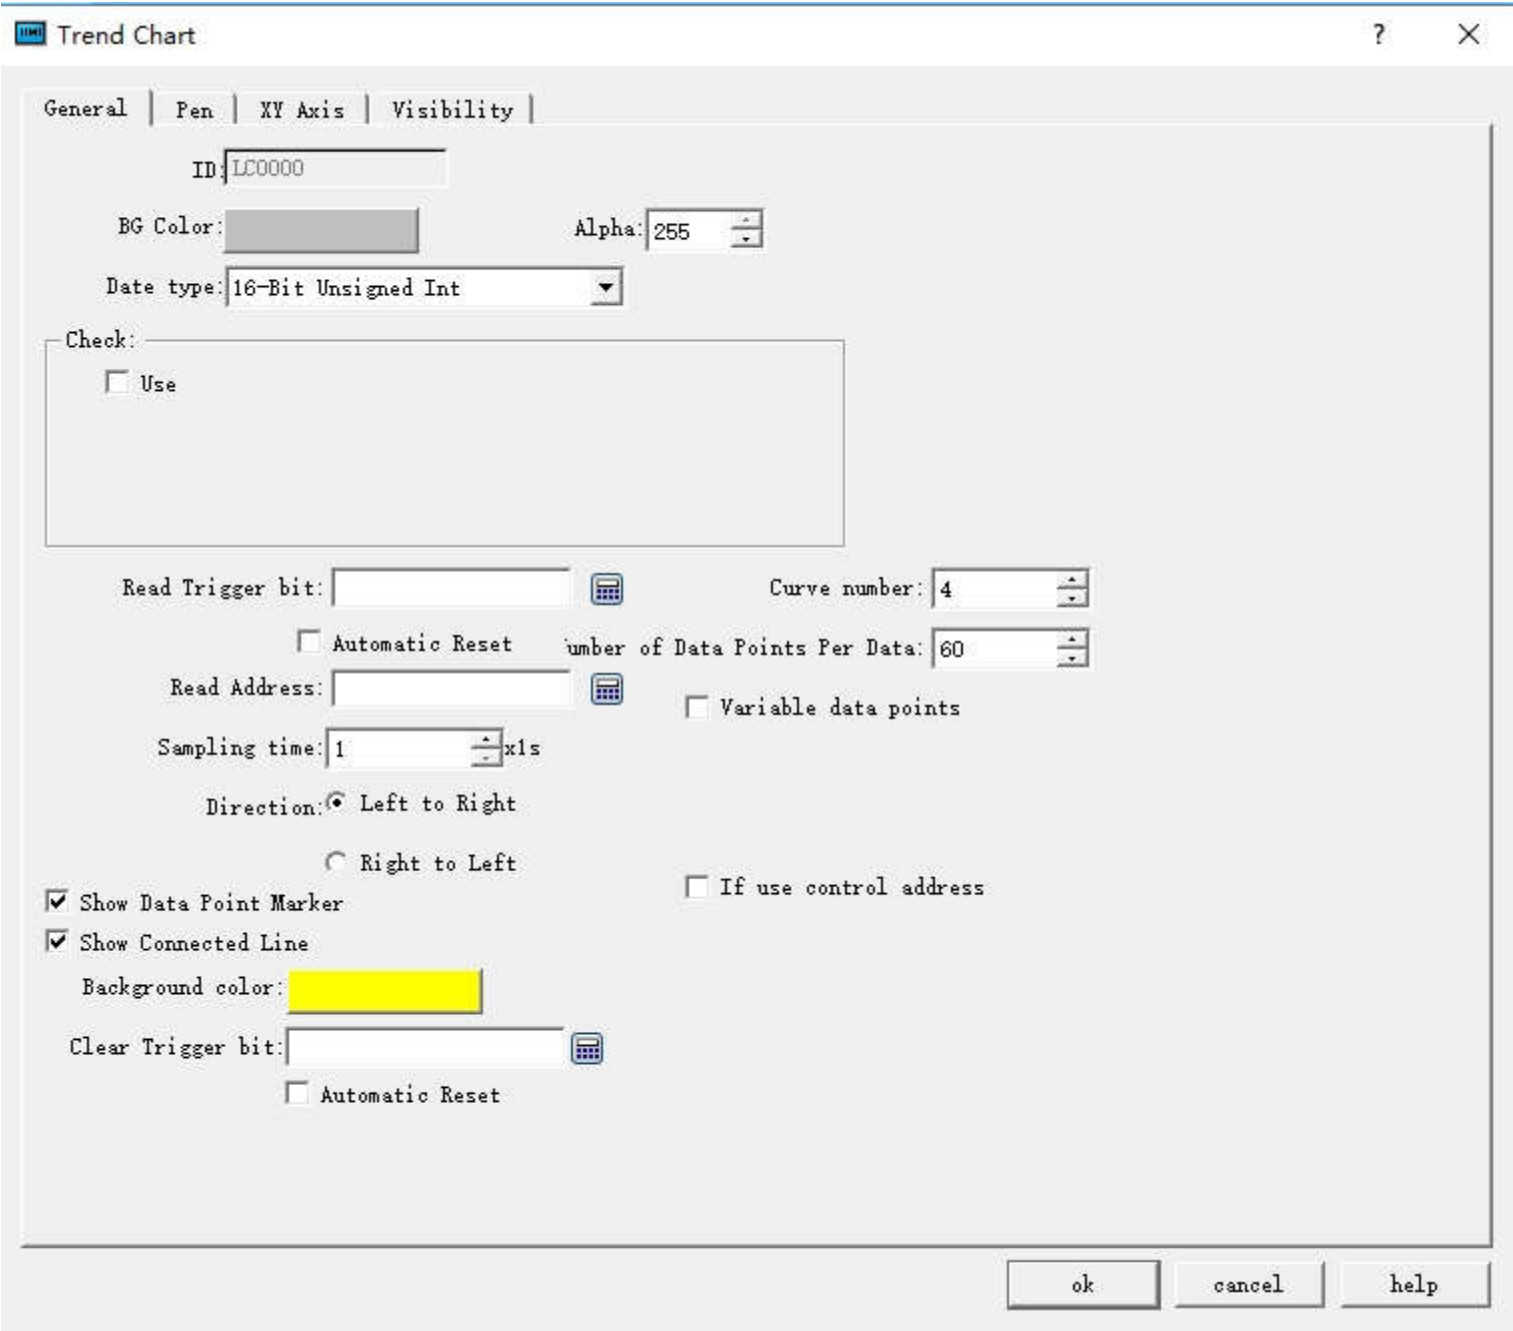

Figure 4-47 Trend Chart Common Dialog Box
1. Select the Trend Chart icon  in the toolbar, and then the properties dialog box appears, as shown in Figure 4-47